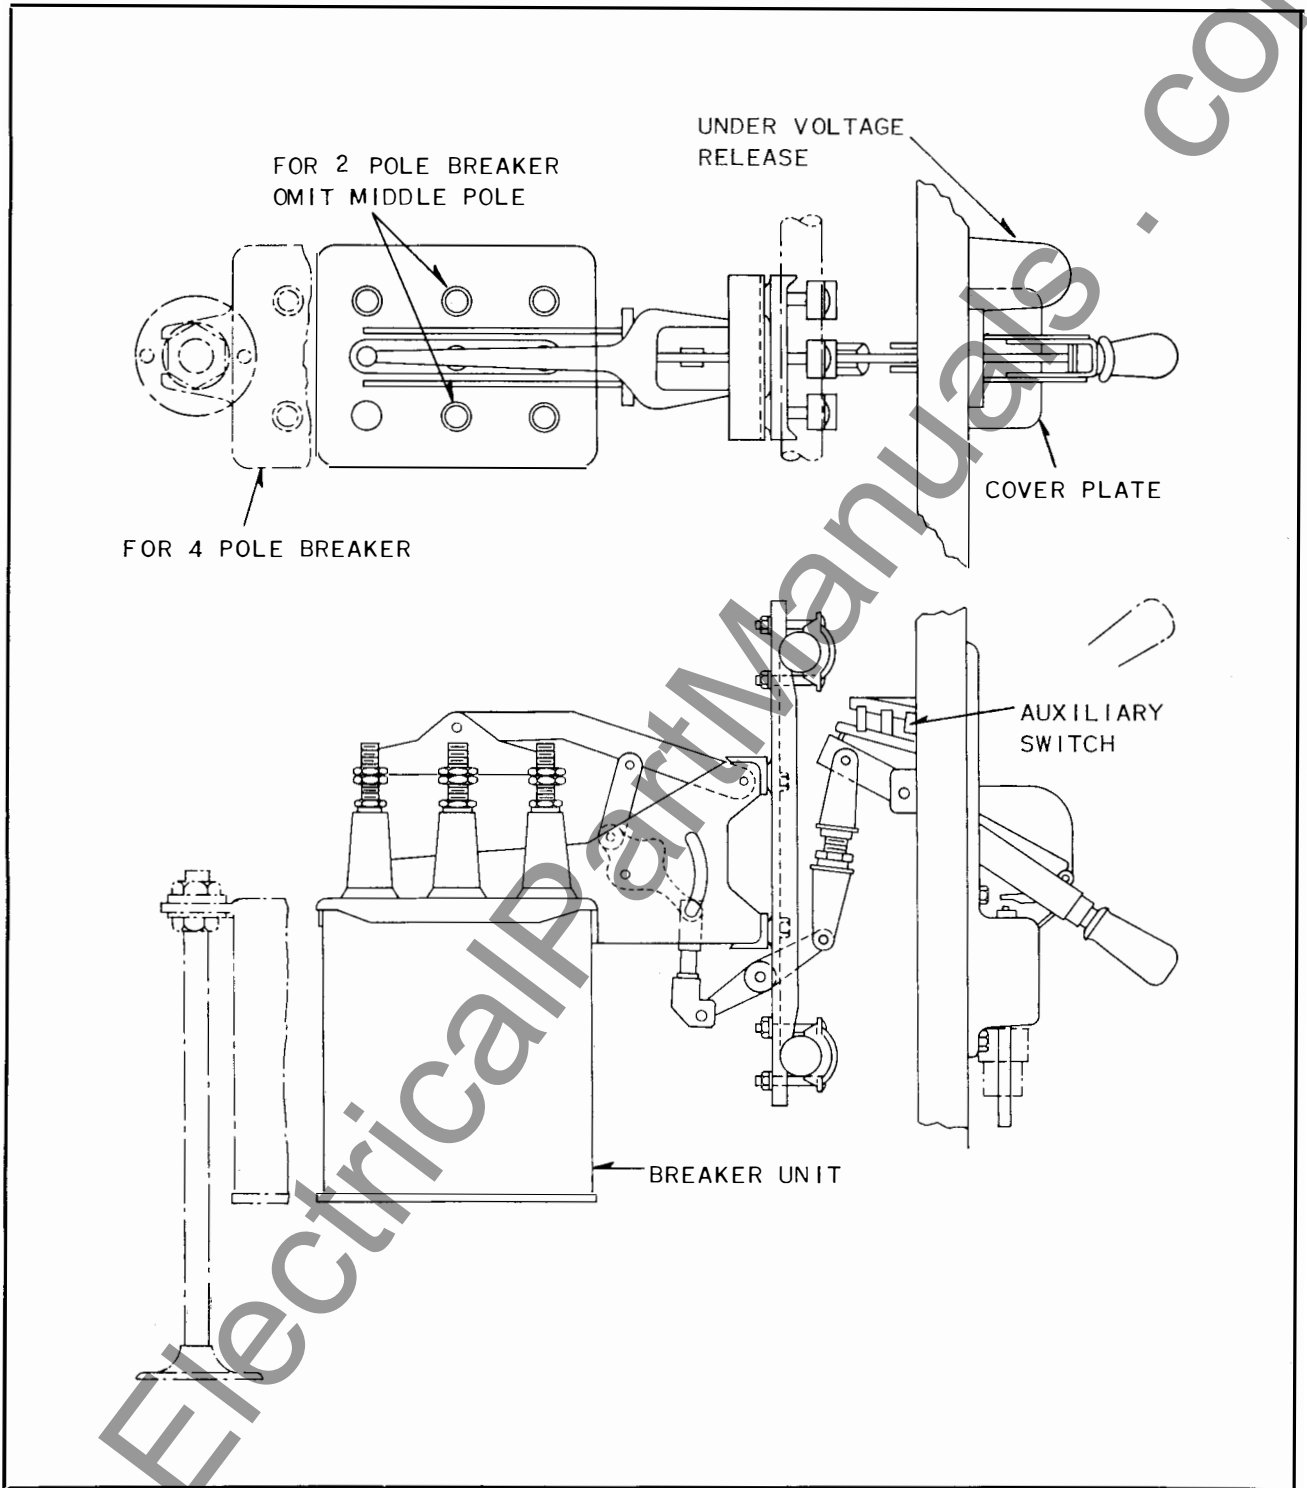

FIG. 7. Panel Frame Mounting Assembly
**7.** If breaker unit is to be carried on panel mounting brackets back of and off of switchboard, the assembly will be as in Fig. 7.